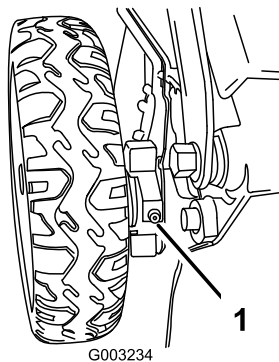

Figure 31
1. Wipe the grease fittings just inside the rear wheels with a clean rag (Figure 31).